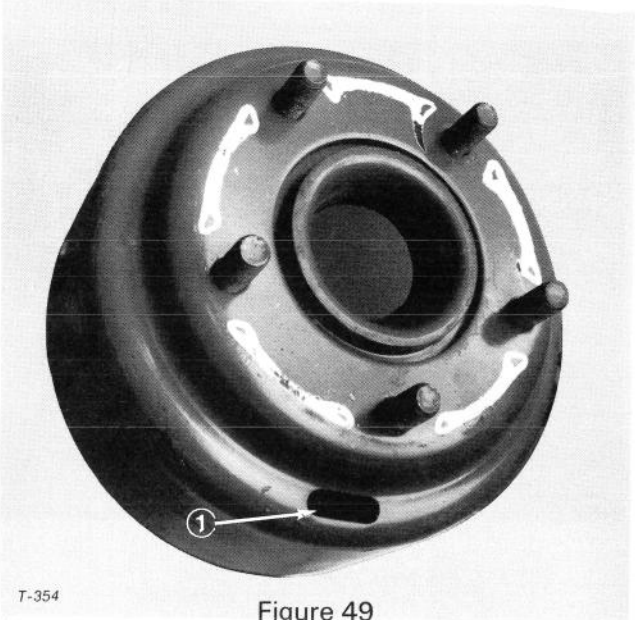
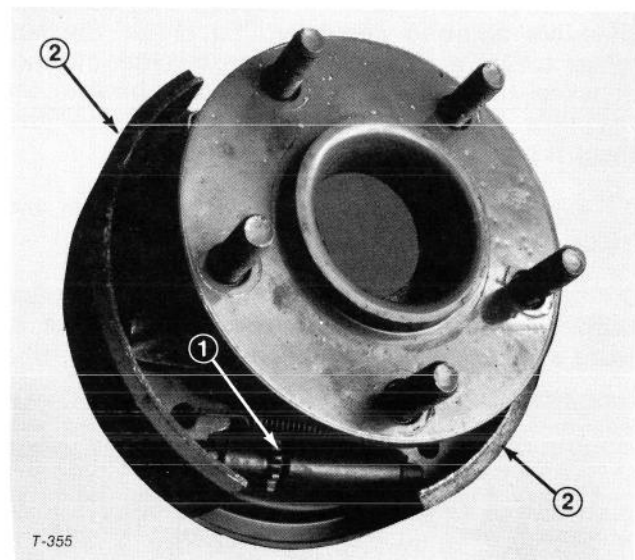

Figure 49
Figure 50
5. Remove wheel nuts and slide wheel and tire assembly off studs. Rotate brake drum until adjusting slot is at bottom and centered over star-nut that adjusts brake shoes (Fig. 49).
6. Using a brake adjusting tool or screwdriver, rotate star-nut (Fig. 49) down until brake drum (Fig. 49) locks because of outward pressure of brake shoes (Fig. 50).